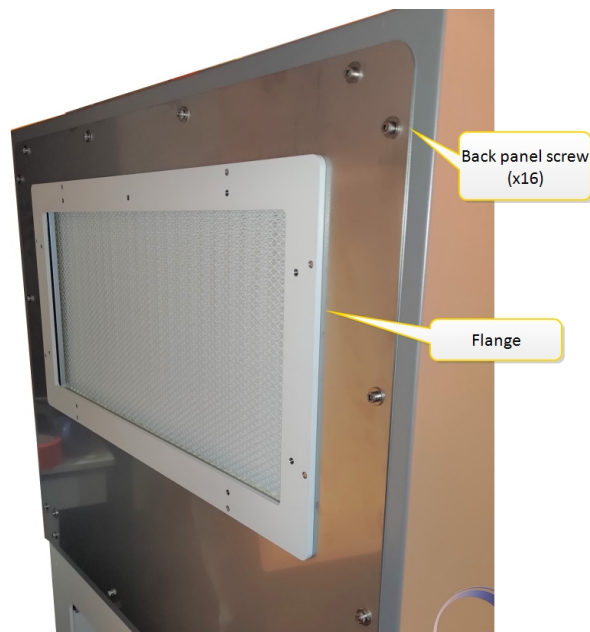

Figure 4-24 Removing the back panel
4. Remove the machine upper back panel including the white flange and the internal HEPA filter housing, see Figure 4-24.